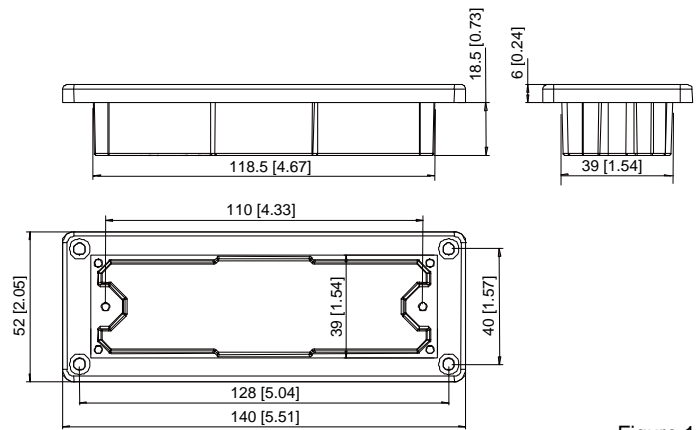

Figure 1
2. Make a cut out using the outline drawings of Figure 1.